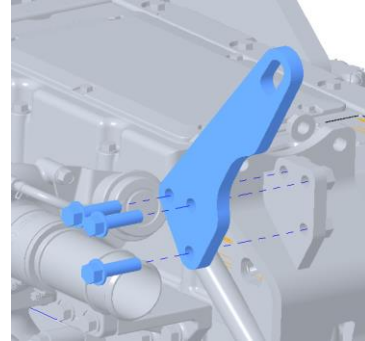

Figure 11
10. Install the engine lighting eye, fan side (15) on the ATD mount bracket (10) as shown in the figure 11 using M12X40 (25) bolts.